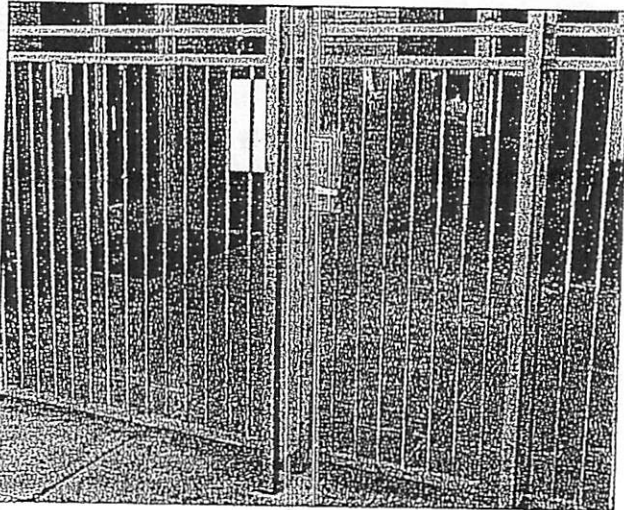

FIGURE 305.2.6(2)
Commentary Figure 305.2.6(2) shows a barrier. The fence is known to be 4 feet (1219 mm) high. It is obvious that the distance between the horizontal rails is less than 45 inches (1143 mm) and the vertical pickets spaced wider than 1.75 inches (44 mm). Thus, this fence is a violation because the horizontal members are not at least 45 inches (1143 mm) apart.